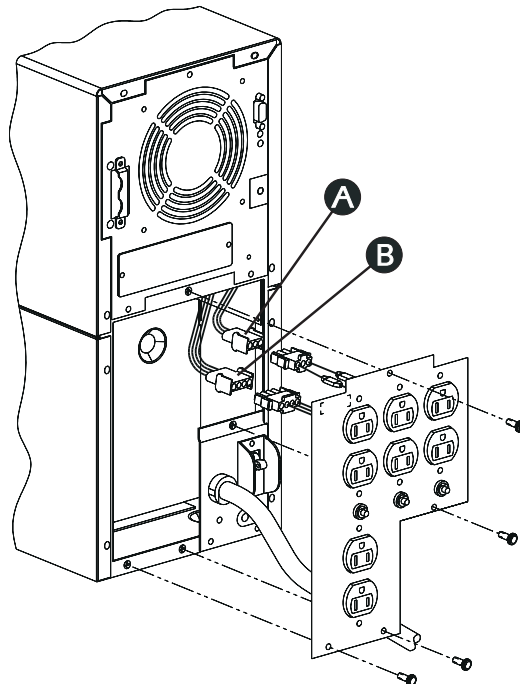

Figure 5-1 *Removal of Output Panel (100V and 120V Tower)*
4. *Unscrew the output panel at the rear of the UPS. Remove only the 4 screws indicated in Figure 5-1. Save these screws. They will be used to install the replacement panels.*
- 5. Plug connector #3 to the 3-pin output connector inside the UPS. (Connector **A** in Figure 5-1)*
- 6. Plug connector #2 to the 4-pin output connector inside the UPS. (Connector **B** in Figure 5-1)*